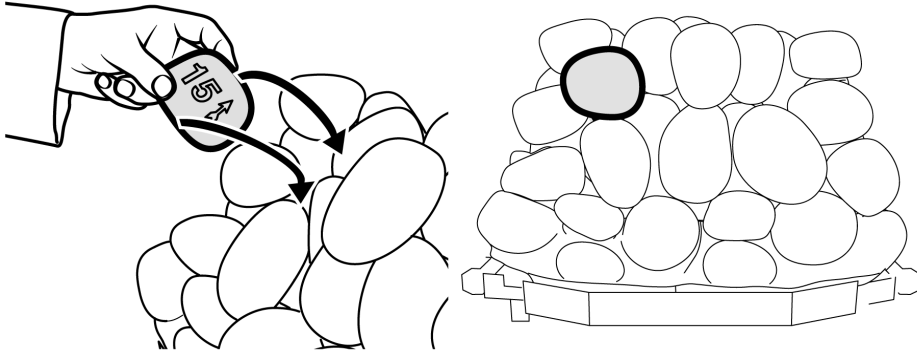

Figure 43 Fourth row "Pebble 15"
25. Hold pebble '15' upright with the arrow pointing to the top. Locate pebble '15' as shown in figure 43.